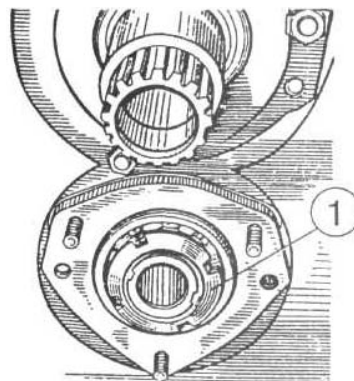

Figure 4.27
d) unscrew crown nut 1 (Figure 4.27) of PTO drive driven shaft;